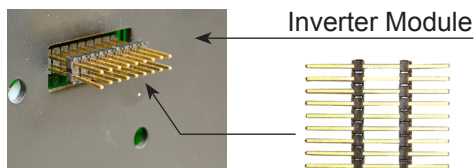

Fig. 4, 18-pin Jumper Installation Location
- Insert the 18-pin jumper into the Inverter Module (Fig. 4). **(For earlier versions, insert the longer pins into the inverter module).**